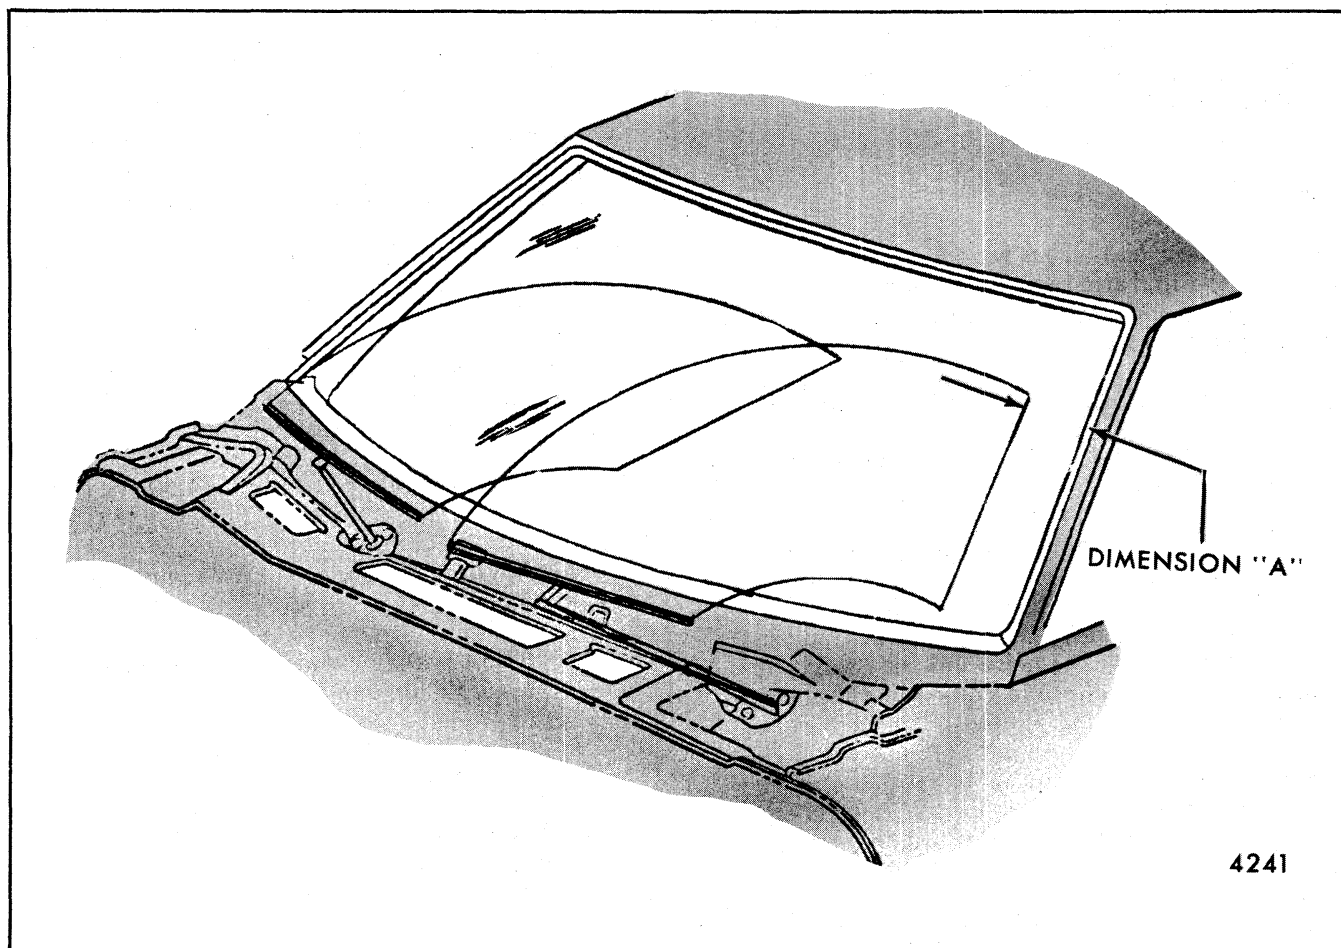

Fig. 2-36-Wipe Pattern
8. Check wipe pattern (Fig. 2-36) and park position. Dimension "A" shown in Figure 2-36 for various body styles is as follows: